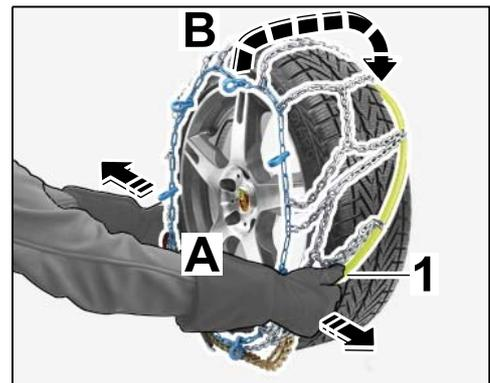

Figure 4
2.1.3 Pull the ends of the spring steel clip apart as far as possible (⇒ *Figure 4-A-*) and guide the snow chain over the wheel from above (⇒ *Figure 4-B-*).